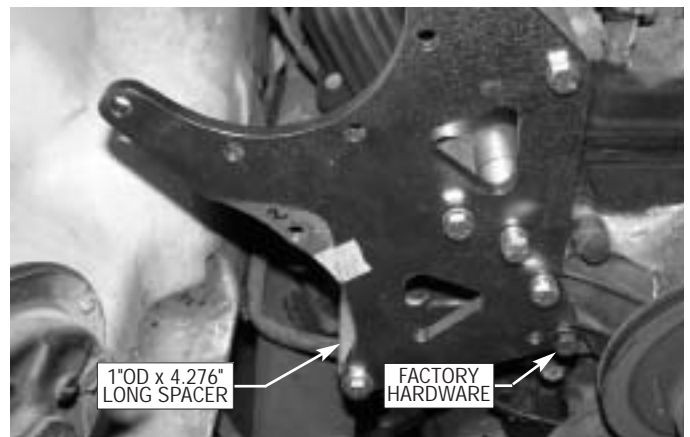

Fig. 5.1-c
- H.** Locate the S/C support bracket and one of the 1"OD x 1.755" long spacers provided. Loosely attach the support bracket to the S/C bracket by placing the provided 3/8-16 x 3.25" bolt and washer through the S/C bracket, spacer and then attaching the support bracket. Secure using the 3/8-16 nyloc nut and washer provided. (See Fig. 5.1-b, 5.1-d.)